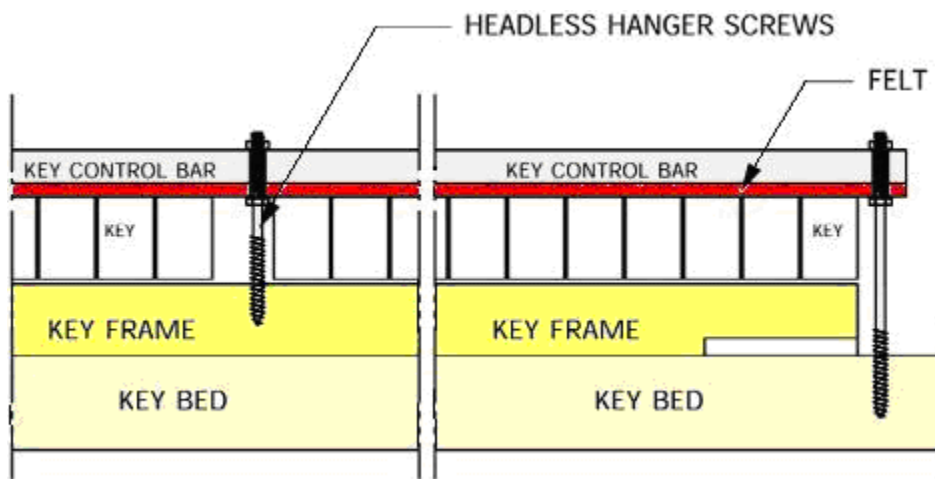

Figure 28
NOTE: Hanger screws are used for the support for the hold down rail, they are 3" (76mm) in length half of the hanger screw is an 8-24 thread and the other half is a wood thread. (See figure 28)
- G. Drill (4) holes just marked on the piano with a 5/32" (4mm) drill bit, 1" (25mm) deep. It may be necessary to build up the end locations with wood.
- H. Use nuts and washers to retain the hold down bar. (See Figure 28)